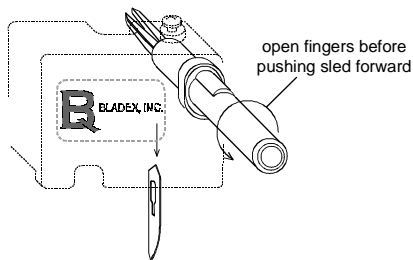

Fig.7 Always open the fingers before pushing sled forward
- (1) Always turn the handle counterclockwise (to open the clamping fingers, see Fig. 7) before pushing the sled forward (step 2).